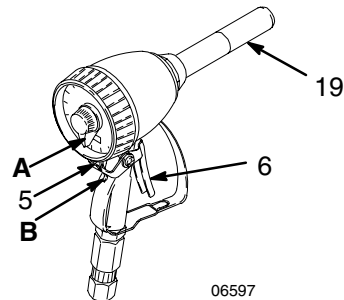

Fig 1
1. Set the meter (A) to the desired number of units. See Fig. 1.
2. Insert the nozzle (19) into the fluid receptacle and pull the trigger (6). The trigger latches automatically.
4. To manually stop the meter: Depress the lever (B) located under the locking bar (5) and raise the locking bar. Trigger the valve to complete the dispense.